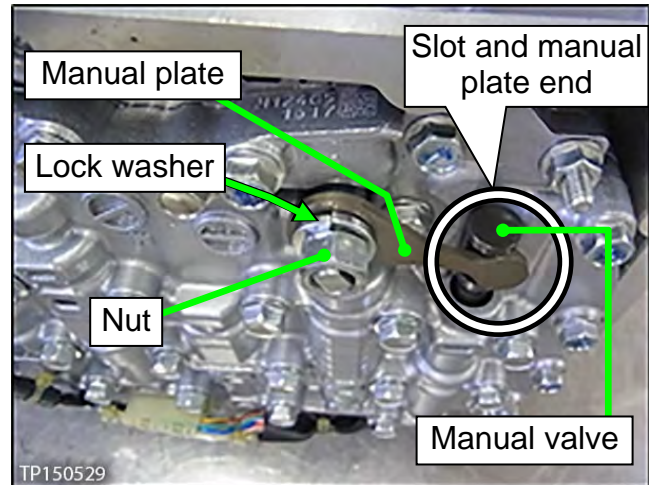

Figure 28
8. Install the manual plate, lock washer, and nut (Figure 28).